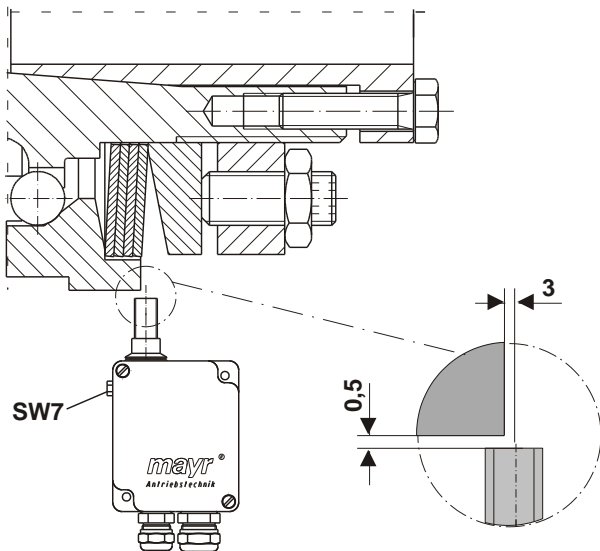
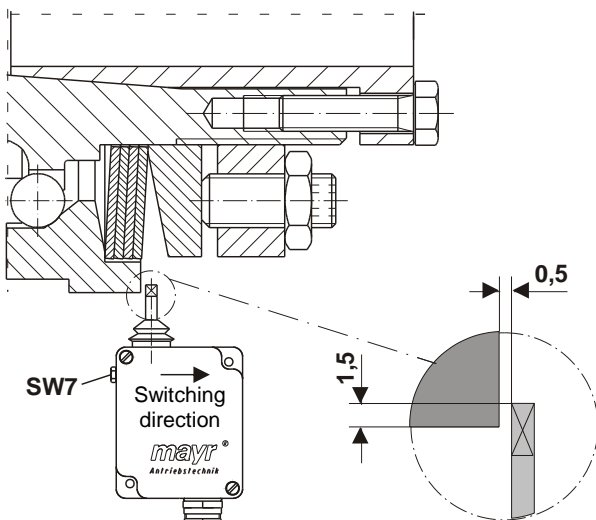

Fig. 13: contactless limit switch
Fig. 14: mechanical limit switch
The switching direction arrow on the housing lid of the mechanical limit switch faces in the direction of the adjusting nut (4) or in the thrust washer (3) stroke direction, Fig. 1. Adjust the switch distances for the contactless and mechanical limit switch acc. Fig. 13 or Fig. 14. The distance from the switching point to the thrust washer (3) can be finely adjusted using a hexagon head screw SW7 (Figs. 13 and 14).